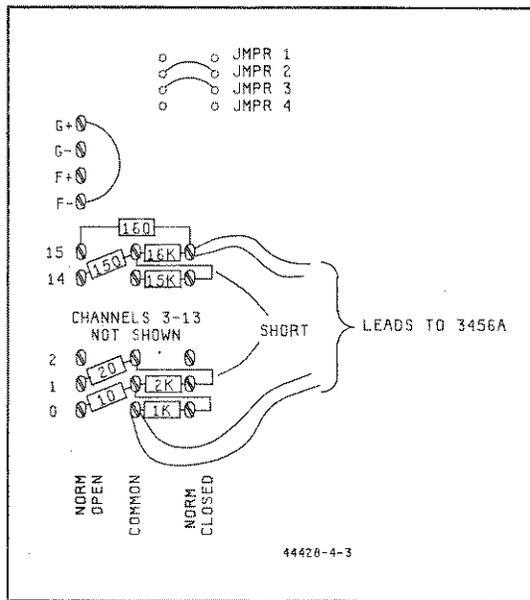

Figure 4-3. Wiring the Terminal Block
c. Referring to Figure 4-3, wire the terminal card as shown. Use short pieces of insulated wire and the resistors.
- e. Referring to Figure 4-3, wire the Gate and Flag Handshake terminals and install jumpers J2 and J3.